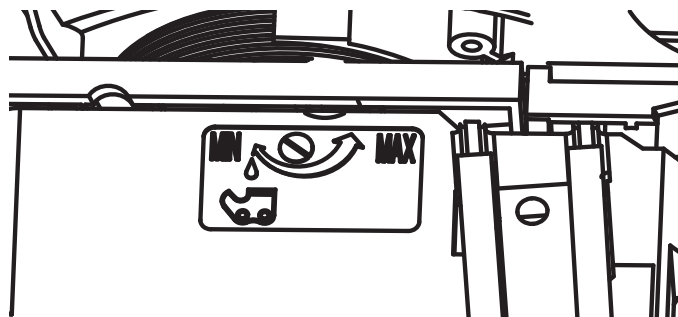

Fig. 23
- To increase the oil flow, turn the automatic oiler adjustment screw counter clockwise with a flat-head screwdriver (Fig. 23).
- To decrease the oil flow, turn the automatic oiler adjustment screw clockwise with a flat-head screwdriver (Fig. 23).